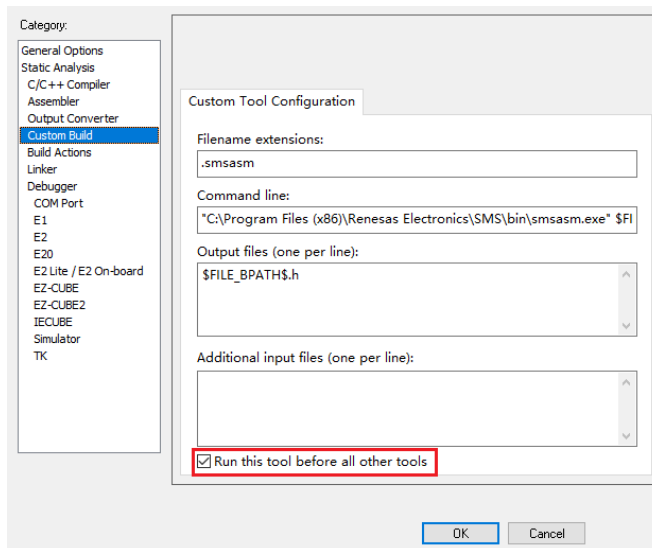

Figure 6-12 Custom build setting of IAR Embedded workbench V4.21
- 2) When using IAR Embedded workbench V4.21, make "Run this tool before all other tools" checked (refer to Figure 6-12)